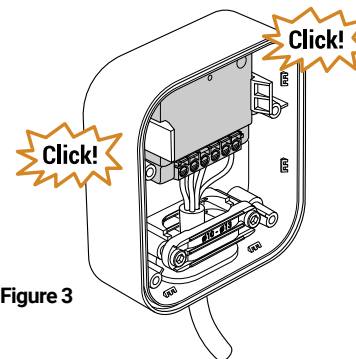

Figure 3
- 4 Clip the module into the Surface Mounting Box - see **figure 3**.